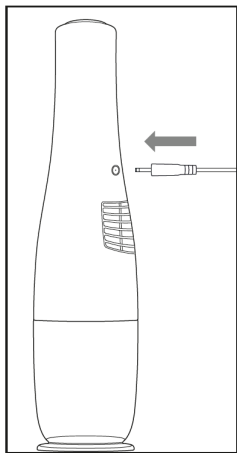

Fig. 1
- Connect the barrel plug «**10**» of the mains adapter «**11**» to the charging socket «**8**» on the underside of appliance (see Fig. 1). Plug the mains plug of the mains adapter «**11**» into the socket. The charge indicator lamp «**6**» starts flashing blue and the charging process begins.